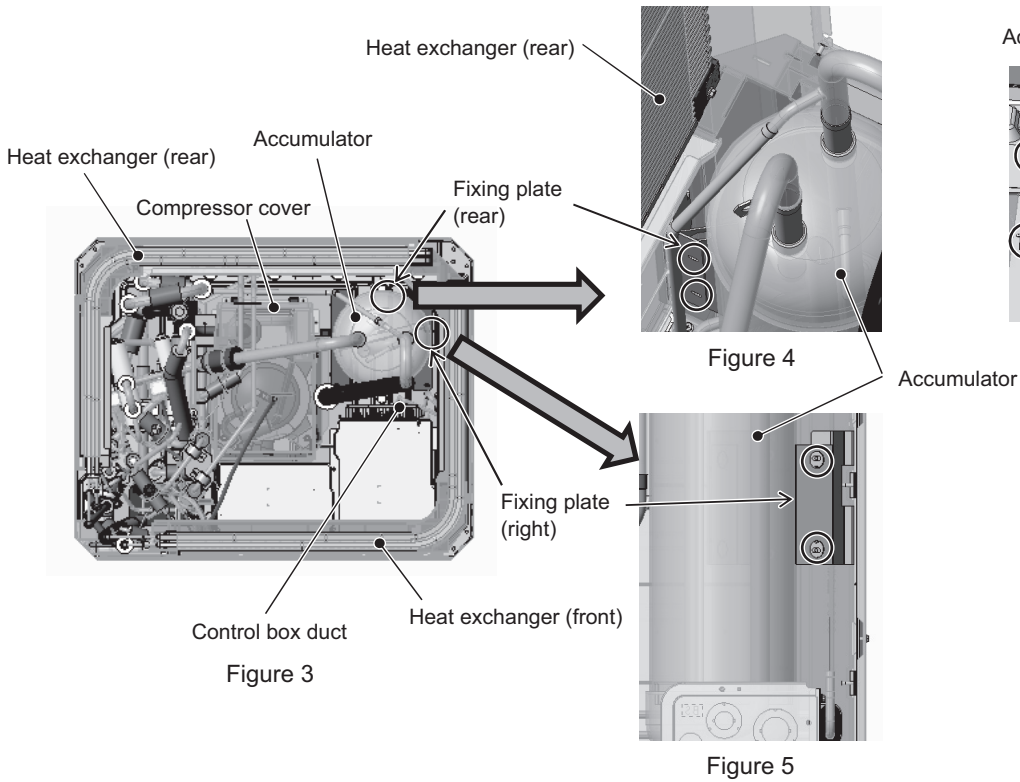

Figure 3
- (5) Unscrew the two screws from the right accumulator fixing plate. (See Figures 3 and 5.)
- (6) Unscrew the two screws from the rear accumulator fixing plate. (See Figures 3 and 4.)